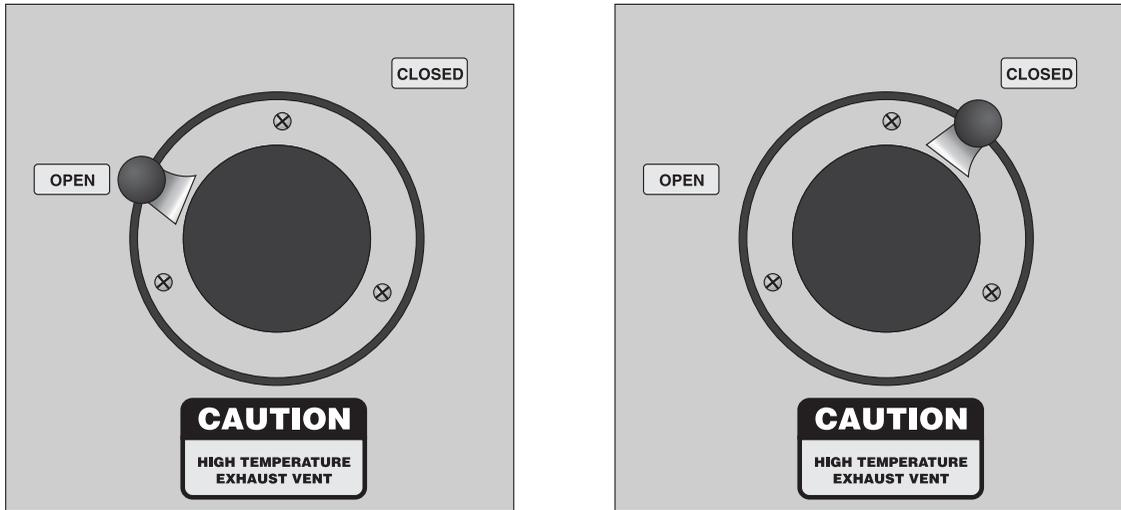

Figure 5. Cooling Blower Vent.
The cooling blower vent on the left side of the hot bath (see Figure 5) must also be left clear. When the blower is operating, hot air will be exhausted from this vent into the room (80°C maximum).
- (1) The **Power** switch controls power to the entire hot bath including the controller, heaters, blower and pump circuits.
- (2) The **Heater Power** switch has three positions: Low, Medium, and High. Low and Medium are used for control functions while High is used only to raise the bath temperature. The Low, Medium and High positions represent approximately 250, 500 and 1000 watts of heating power respectively.
- (3) The **Boost Heater** is used to increase the upward temperature scan rate. This heater is also controlled by the temperature controller so that the controller will stop the temperature rise when the set temperature is reached. This switch must be off for good constant temperature control.
- (4) The **Boost Heater Indicator** serves as a reminder that the heater is on. Turn the boost heater off when desired temperature is reached.
- (5) The **Cooling Light** shows blue when the blower is on. Turn the blower off when the set temperature is reached.
- (6) The **Cooling Blower Switch** turns on the blower that circulates cooler room air around the hot bath tank in order to lower its temperature at a faster rate. When the blower is turned on, the blower vent on the left side near the rear of the bath (see Figure 5) must be opened. It must be closed again for control. Note: The cooling blower may be used at low temperatures to provide added heat loss for controlling the bath.
When cooling in excess of 1 or 2°C is required, open the blower vent (see Figure 5 and Section 5.2.1) on the left side of the bath and then turn on the blower. When the desired temperature is reached, turn the blower off, close the blower vent, and switch the heater power to Low or Medium. Select the recommended heater power from the following chart depending on the temperature.